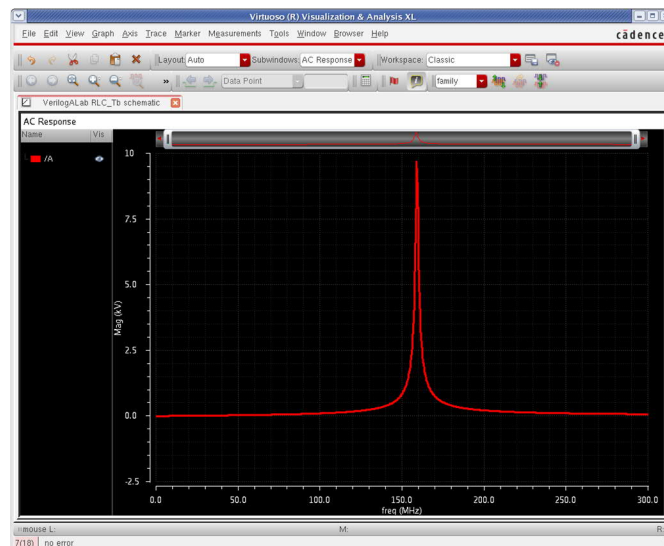

Figure 4. Simulation result for the RLC circuit.
- Click *Simulation > Netlist and Run* (green button on the right margin of the ADE window) to run the simulation. The results should look like in Figure 4.